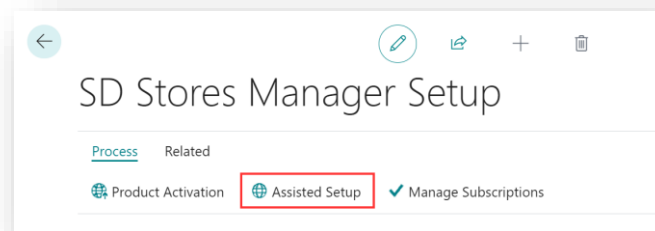

Figure 6-1
1. In the **SD Stores Manager** page, from the menu choose the **Process** group, and then **Assisted Setup** (*Figure 6-1*).